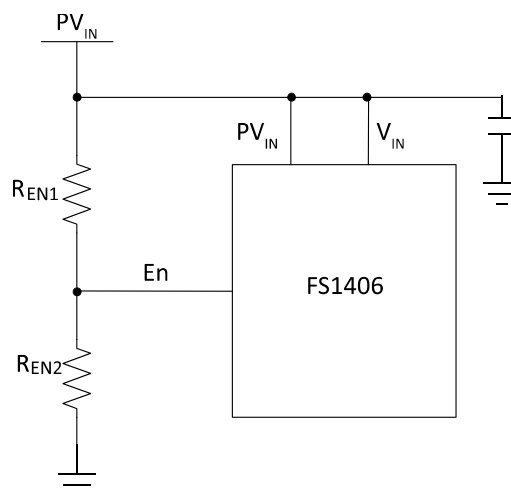
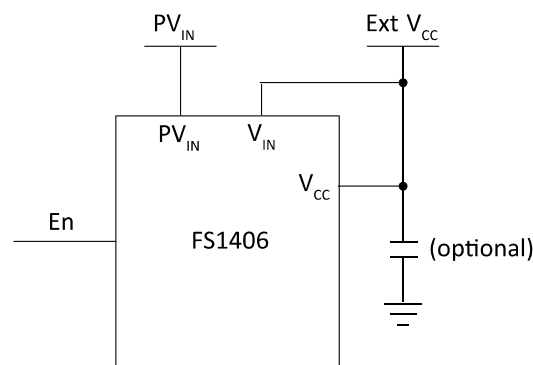

Figure 6 Single supply configuration: internal LDO regulator, adjustable PV_{IN}_UVLO
Figure 7 Using an external bias voltage
The FS1406 has an integrated Low Drop-Out (LDO) regulator, providing the DC bias voltage for the internal circuitry. The typical LDO regulator output voltage is 5.2V. For internally biased single-rail operation, the V_{IN} pin should be connected to the PV_{IN} pin (Figure 6). If an external bias voltage is used, the V_{IN} pin should be connected to the V_{CC} pin to bypass the internal LDO regulator (Figure 7).
- It can be used to implement a precise input voltage UVLO. The input of the En pin is derived from the PV_{IN} voltage by a set of resistive dividers, R_{EN1} and R_{EN2} (Figure 6). Users can program the UVLO threshold voltage by selecting different ratios. This is a useful feature that stops the FS1406 regulating when PV_{IN} is lower than the desired voltage.